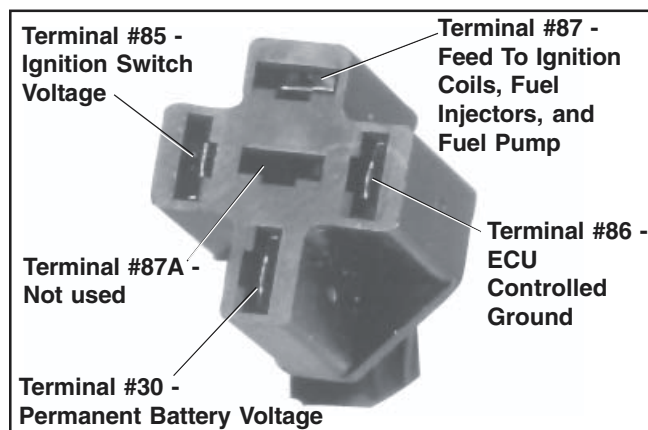

Figure 5B-13. Relay Connector.
2. Connect black lead of VOA meter to a chassis ground location. Connect red lead to the #86 terminal in relay connector (see Figure 5B-13). Set meter to test resistance (Rx1). Turn ignition switch from “off” to “on.” Meter should indicate continuity (ground circuit is completed) for 1 to 3 seconds. Turn key switch back off.